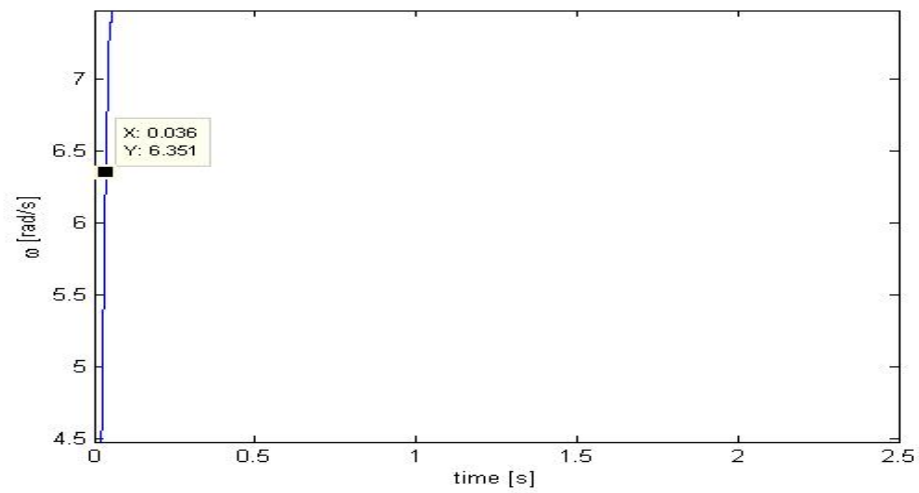

Figure 1.3: Zoomed in plot of omega vs time at  $t = \tau$
3. By manipulating the solution to equation The motor constant  $\tau$  was found to be roughly 0.036. A zoomed in plot of the angular velocity at  $t = \tau$  can be found in figure 1.3